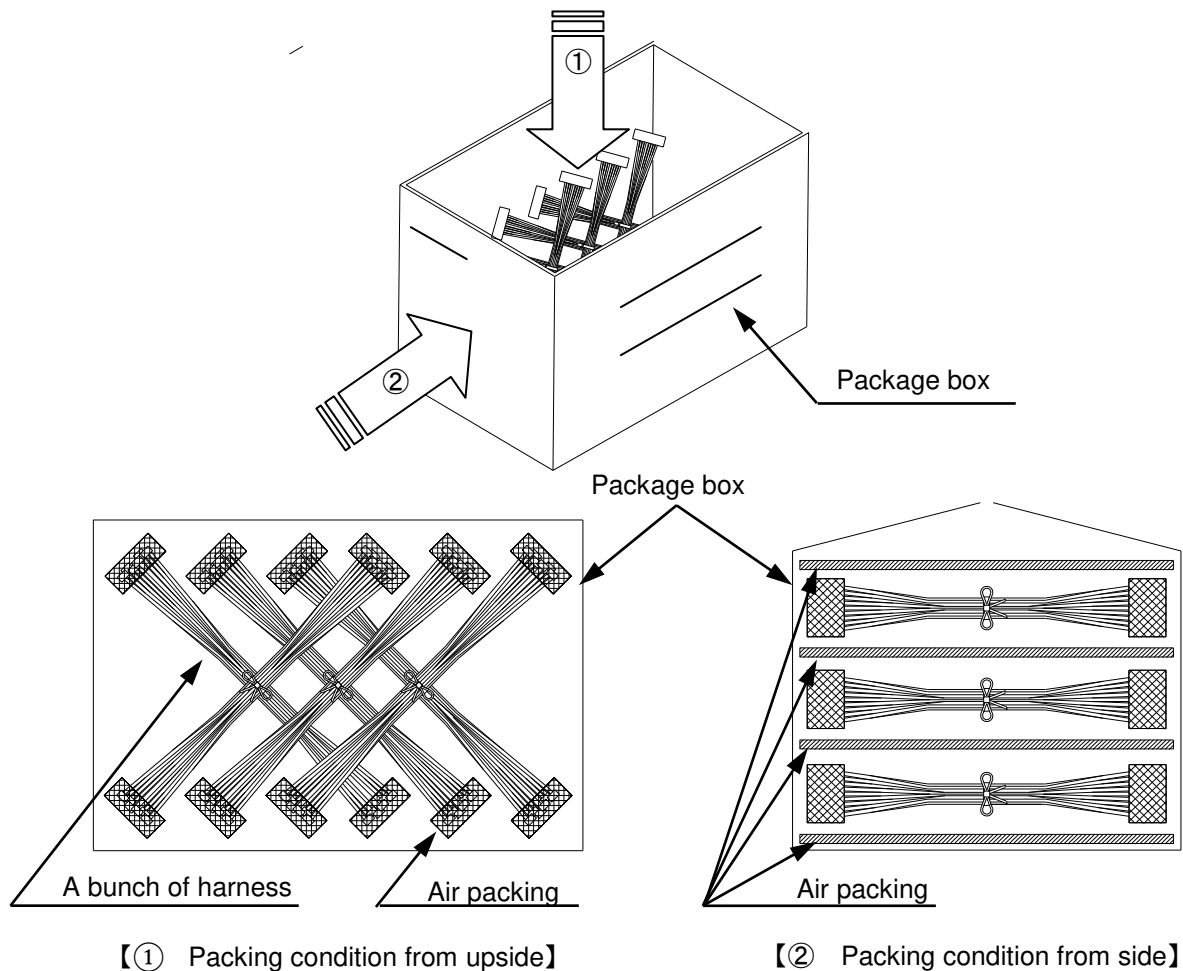

Fig.8-2 Packing condition
Figure below (Fig 8-2) is one of examples for recommended reference. Please take measure not to add force to connector for a long period of time by stacking if you pack by different packing method for long harness.
※When packing bundle of harness after processing in a package box, please follow instructed packaging and avoid applying excessive load or force to harnesses. (cross shape) (Fig.8-2 ①)
※Please lay air packing etc. on the bottom of package box. In order to prevent force from applying to connectors for a long time by piling up package boxes, please lay air packing etc. (Fig.8-2 ②)